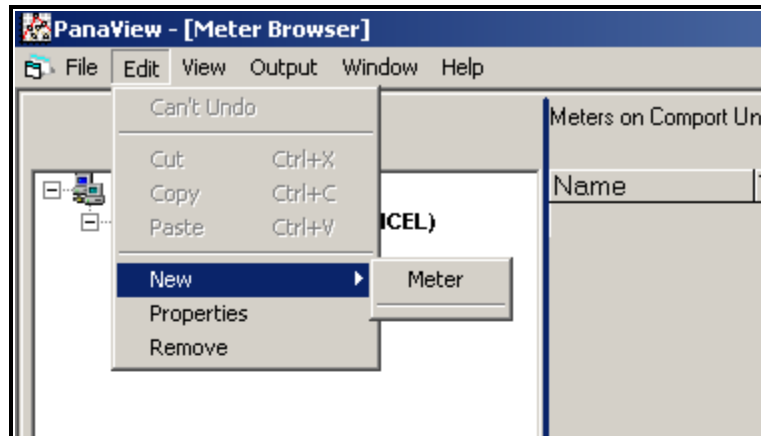

Figure 20: "New" Option in the "Edit" Menu
2. Click on the "New" option in the "Edit" menu (see Figure 20).